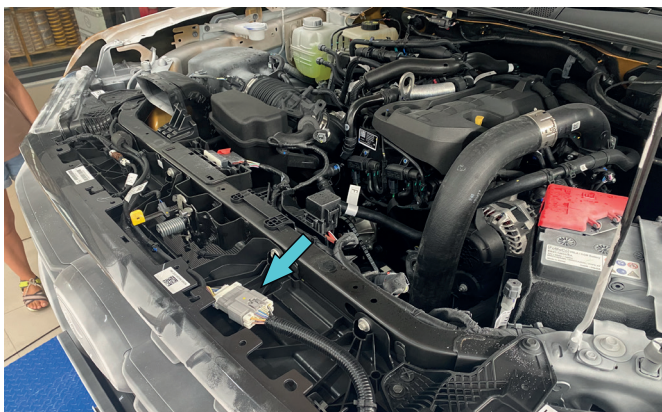

Fig.3
3. Disconnect OE wiring (fig.3).